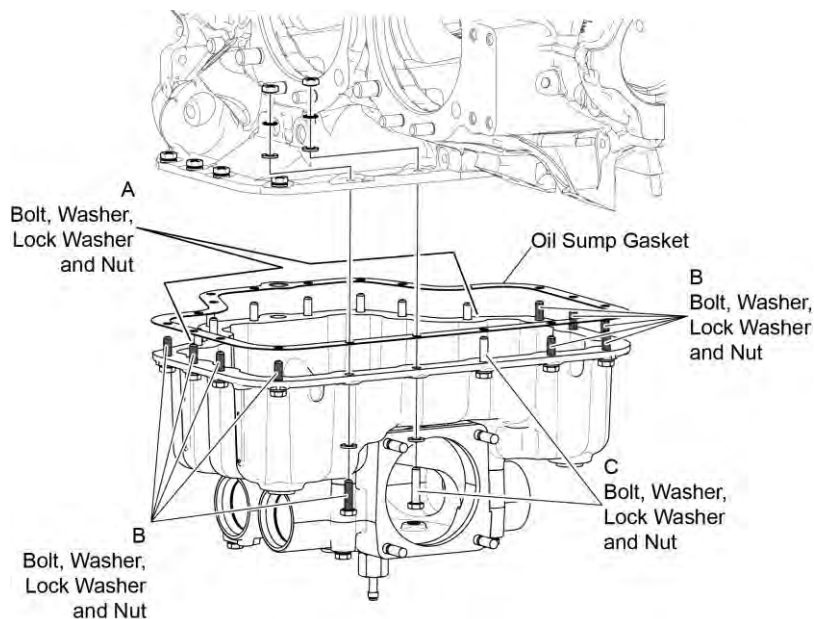

Figure 13
- C. Remove and keep the eight “A” bolts, lock washers, and washers (Figure 13) that attach the oil sump to the accessory housing and crankcase. Discard the lock washers.
- E. While one person holds the oil sump, remove and keep the two “C” bolts, lock washers, flat washers, and nuts from the locations shown in Figure 13 on the oil sump. Discard the lock washers.
- E. Install a new oil sump gasket in either the oil sump groove (Figures 13 and 16) or on the mating flange of the crankcase.
- G. Examine all of the oil sump fasteners identified as A, B, and C in Figure 13, that were to be kept separate when the oil sump was removed. Make sure the bolts, studs, and nuts are not damaged are intact and have no stripped threads. Replace any damaged or stripped fastener.
- H. Install the two “C” bolts each with a nut, two washers, and a new lock washer, at the location shown in Figure 13, finger-tight.